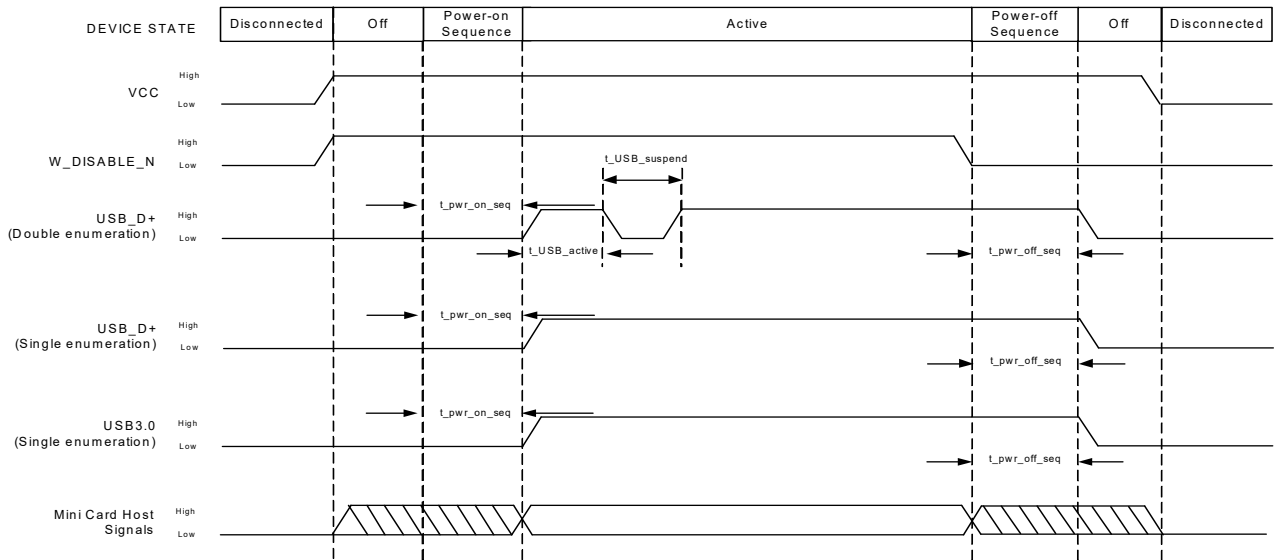

Figure 4-2: Signal Timing (*W\_DISABLE\_N*, and USB Enumeration)
Figure 4-2 describes the timing sequence for powering the module on and off.
- Double enumeration—As shown in Figure 4-2 on page 48: